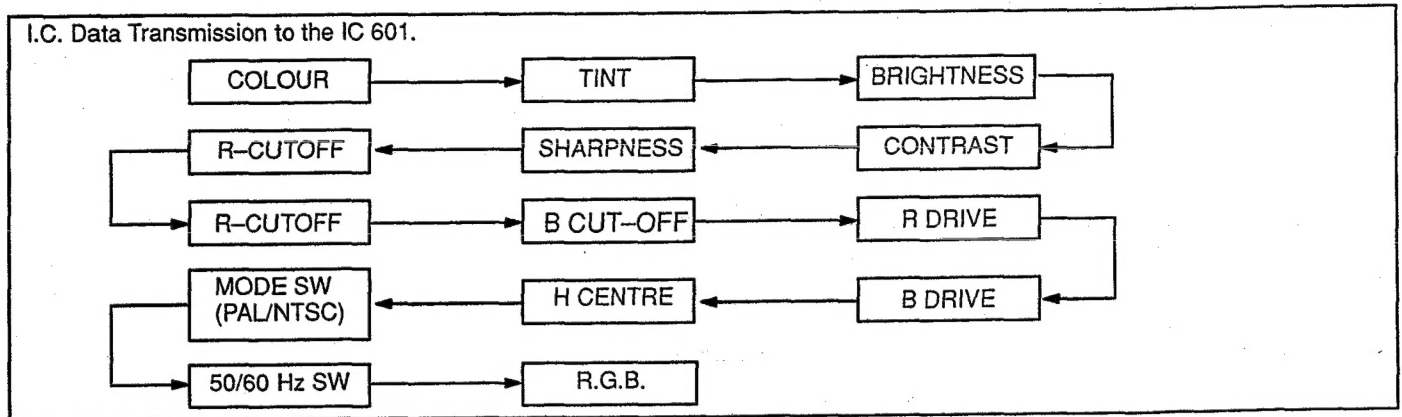

Fig. 4
1. Various control functions are possible via the I2C bus from the microcomputer IC1102 to VCJ IC601, as shown in Fig. 4.